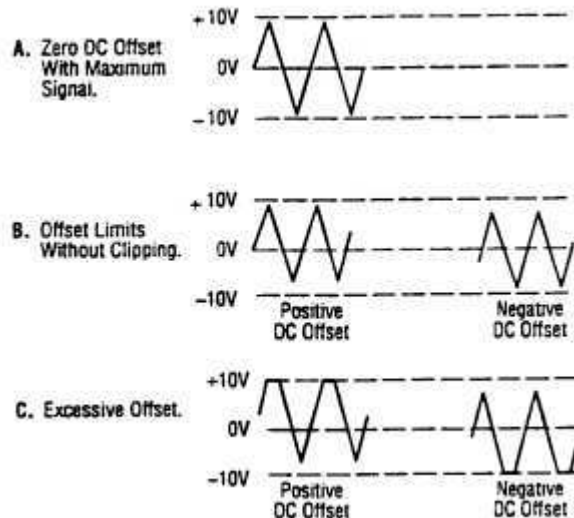

Figure 3. Use of DC OFFSET Control
- Adjust the amplitude of the output as desired using the **OUTPUT LEVEL** control (10). Rotation of this control varies the amplitude from maximum to 20dB below maximum. An additional attenuation of -20dB is available by pushing in the **-20dB** switch (5). The attenuation factors can be combined for a total of -40dB. The maximum signal level is 10V p-p (into 50 Ω).
- A DC component can be added to the output signal by pushing in the **DC OFFSET** switch (4) to enable operation of the **DC OFFSET** control (11). Rotation of this control adds a positive or negative DC component to the output signal. The DC component introduced is independent of the **OUTPUT LEVEL** control and can be varied by ± 10 volts open circuited or ± 5 volts into 50 Ω . The DC Offset does not affect the **TTL/CMOS** output jack. The effect of DC OFFSET is shown in Fig. 3.
6. Remember that the output signal swing of the generator is limited to ± 10 volts open circuited or ± 5 volts ~~into 50Ω~~ applies to the combined peak-to-peak signal and DC offset. Clipping occurs slightly above these levels. Fig. 3 illustrates the various operating conditions encountered when using the DC offset. If the desired output signal is large or if a large DC offset is required, an oscilloscope should be used to make sure that the desired signal is obtained without undesirable clipping.